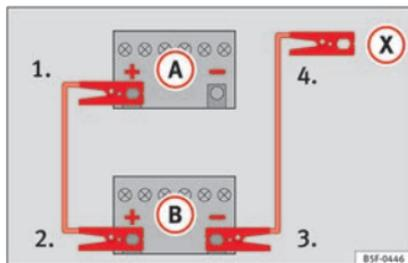

Fig. 189 Diagram of connections for vehicles without Start Stop system
2. Connect one end of the *red* jump lead to the positive (+) terminal of the vehicle with the flat battery (A) »» **Fig. 189**.
3. Connect the other end of the *red* jump lead to the positive terminal (+) in the vehicle providing assistance (B).
4. **For vehicles without Start-Stop system:** connect one end of the *black* jump lead to the negative terminal (-) of the vehicle providing the current (B) »» **Fig. 189**.